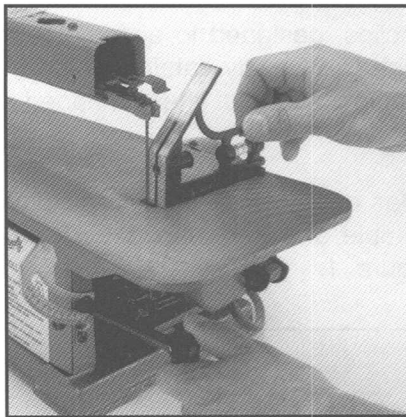

Figure 2
3. Place the square against the blade. If there is any space between the square and the blade, the table is not at 90°. Adjust the table to close this space. See Figure 2.